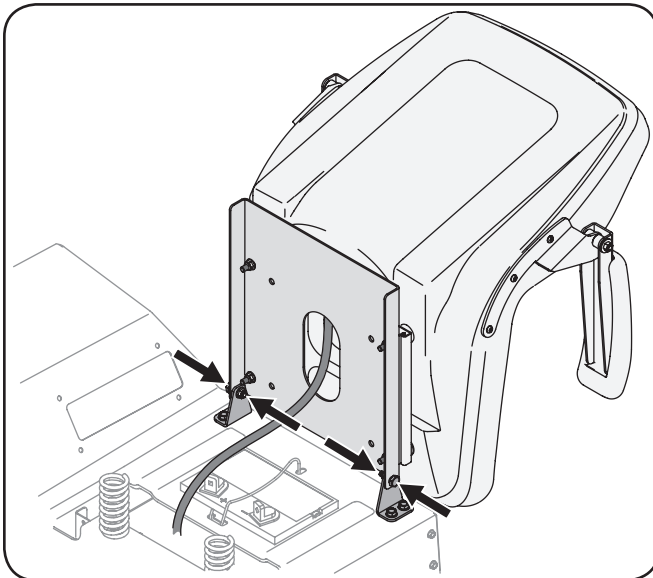

Figure 3-4
3. Rotate the seat into position and secure the seat into place with the previously removed shoulder bolts and lock nuts. Be careful not to crimp or damage the wire harness while installing the seat. See Fig. 3-4.